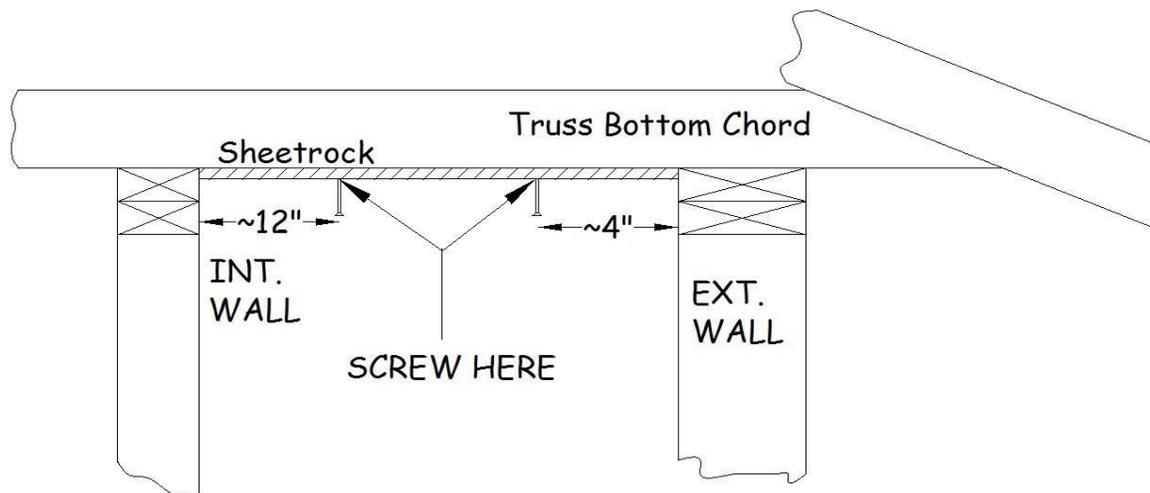

Figure 13-1. Screw Locations for Ceiling Sheetrock.
7. When fastening sheetrock to trusses that cross interior or exterior walls, hold the screws about 12" away from interior walls, and about 4" away from exterior walls (see Figure 13-1).